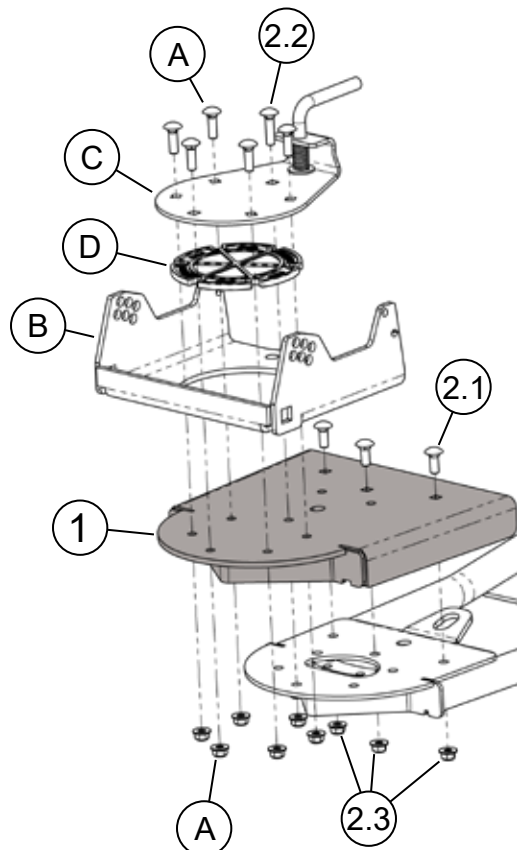

Figure 3
3. Reinstall pivot bushing (D), lift latch assembly (C), and cradle (B), using hardware (A) removed in step 1 onto Mid Extension (1) as shown in **Figure 3**. **NOTE:** The rear most bolt (A) will be replaced with a longer bolt (2.2) due to additional material thickness.